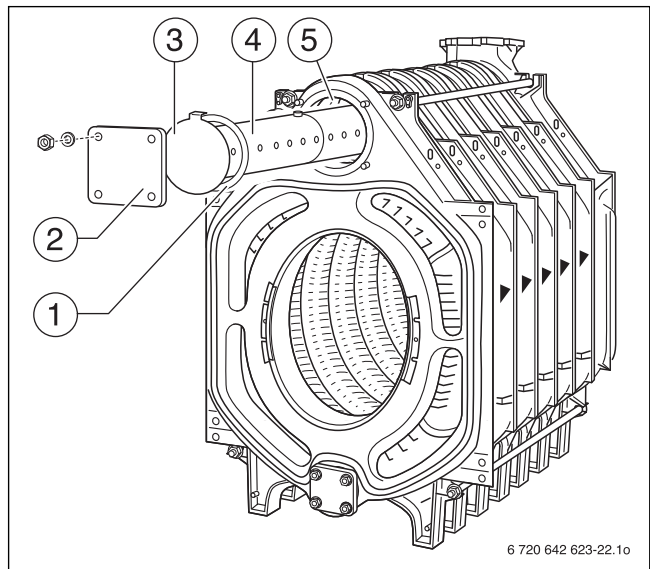

Fig. 24 Installing the supply pipe
The supply pipe (→ Fig. 24, [4]) consists of 2 pieces for boilers with 10 – 12 boiler sections.
- ▶ Push the flat gasket over the supply pipe (→ Fig. 24, [1]).
- ▶ Close off with flange cover (→ Fig. 24, [2]).
- ▶ Make sure that the cam [3] on the end plate of the supply pipe (→ Fig. 24, [3]) fits in the notch in the top boiler hub (→ Fig 24, [5]).